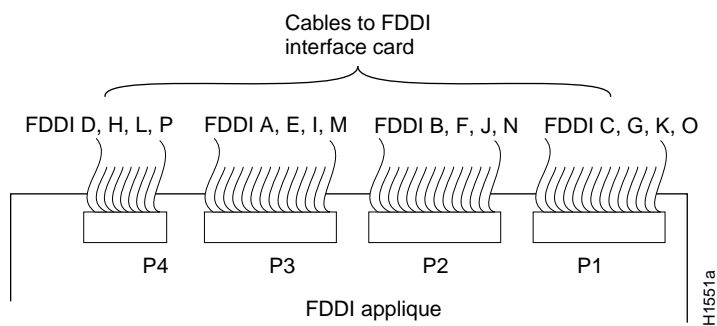

Figure 5-22 FDDI Applique Cables to FDDI Card Connectors—Partial Component-Side View
- FDDI applique cables to FDDI card connectors, Figure 5-22